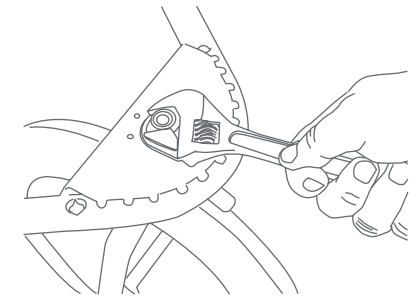

Fig. 25
25) • If you experience front wheel wobble that is beyond what is normal for use while walking or jogging you may have to adjust the front wheel housing nut. This nut is located under the footrest located at the front of the jogger. You can use a standard crescent wrench to tighten the nut. **DO NOT OVERTIGHTEN** this can cause damage to the wheel housing (Fig. 25).